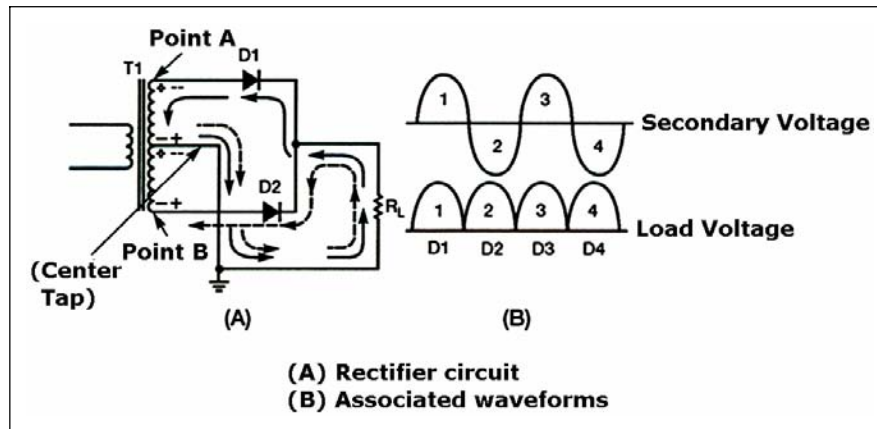

Figure 4-6. Practical Full-wave Rectifier
4-16. Figure 4-6, view (A) shows a practical full-wave rectifier circuit. It uses two diodes (D1 and D2) and a center-tapped transformer (T1). When the center tap is grounded,
4-17. During the first half cycle (indicated by the solid arrows), the anode of D1 is positive with respect to ground and the anode of D2 is negative. Figure 4-6, view (A) shows that current flows from ground (center tap), up through the load resistor (R_L), through diode D1 to point A. In the transformer, current flows from point A, through the upper winding, and back to ground (center tap). When D1 conducts, it acts like a closed switch so that the positive half cycle is felt across the load (R_L).
4-19. Figure 4-6, view (B) represents the output waveform from the full-wave rectifier. The waveform consists of two pulses of current (or voltage) for each cycle of input voltage. The ripple frequency at the output of the full-wave rectifier is therefore TWICE THE LINE FREQUENCY.